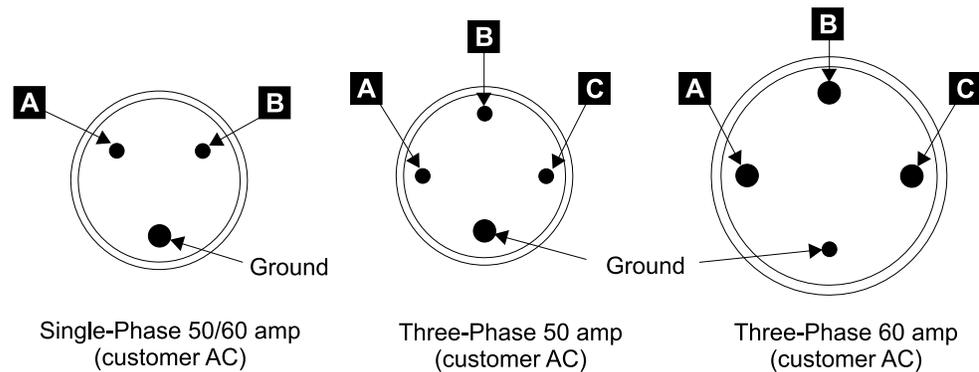

Figure 278. Single Phase Female Connector on the Mainline Power Cable and Customer AC (S0080481)
- For single-phase AC see Table 24 on page 285 and Figure 278 on page 285.
- For three-phase AC see Table 25 on page 285 and Figure 278 on page 285.